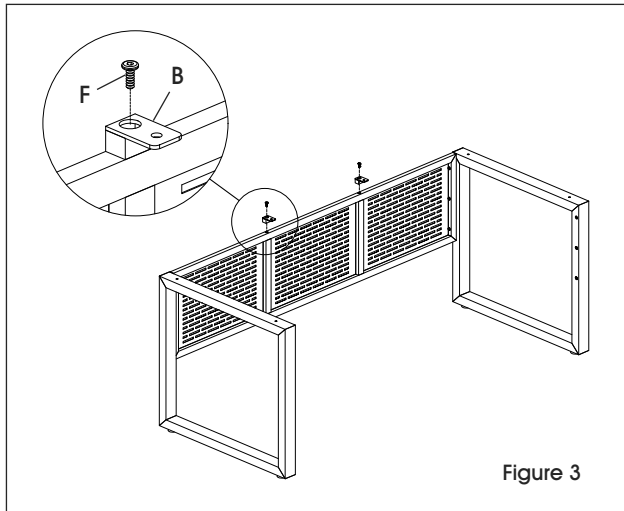

Figure 3
- Align two modesty panel connectors (B) with holes in top of modesty panel. Attach using two M6 x 15 mm bolts (F) and tighten. (See Figure 3)